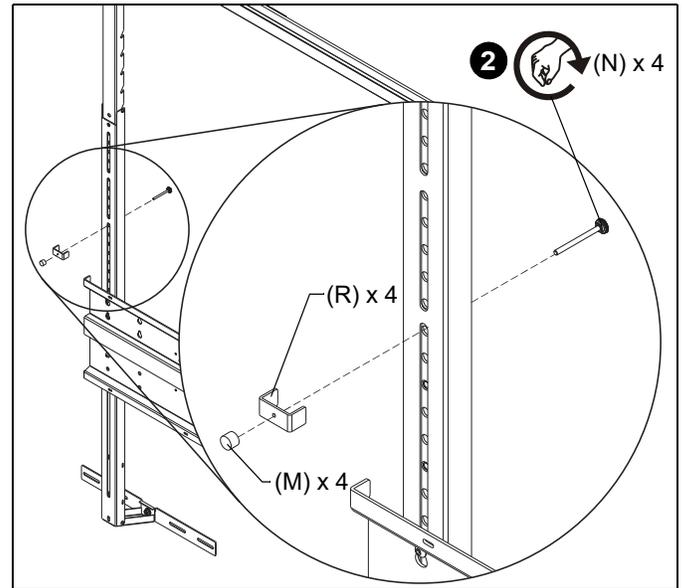

Figure 27
- Attach two bumper plate retainers (R), two 4" knobs (N), and two bumpers (M) through each leg assembly, one just below top of flat panel and one just above bottom of flat panel. (See Figure 27)
- Adjust 4" knobs so that flat panel is supported evenly by each of the four bumpers. (See Figure 27)